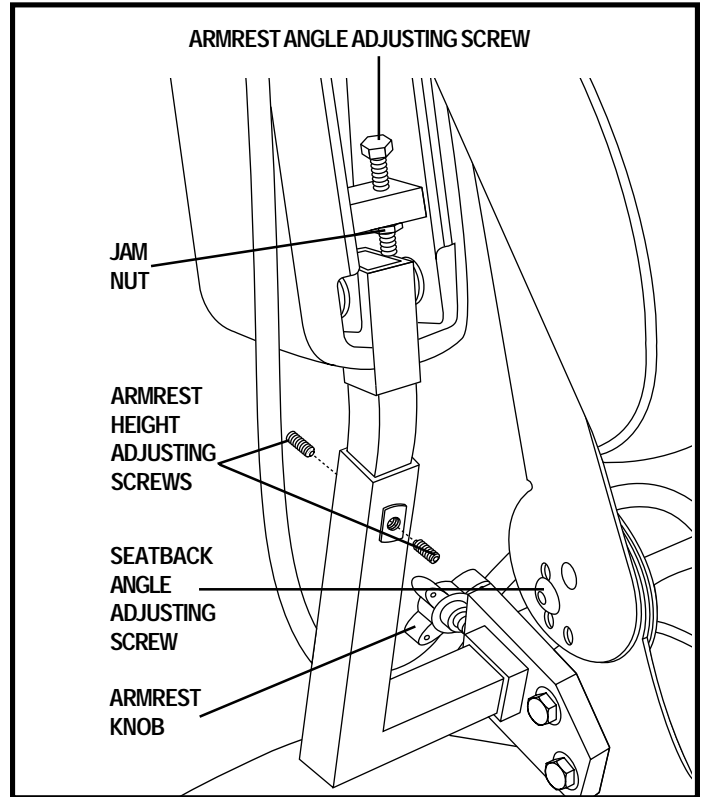

Figure 15. Seatback Angle Adjustment
1. Locate the two armrest knobs on each side of the armrest receiver bracket. See figure 15.
1. Loosen the two setscrews located on the armrest receiver. See figure 15.
1. Lift the armrest straight up so that it is perpendicular to the floor. See figure 15.